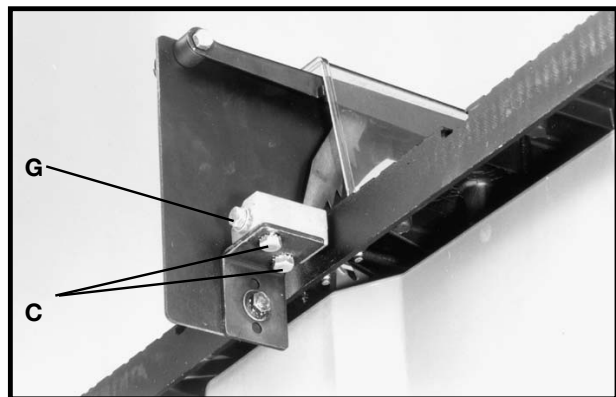

Fig. 22
10. When you are certain the splitter is properly aligned with the saw blade, tighten the two screws (C) Fig. 22, that fasten the splitter support bracket to the splitter bracket and tighten screw (G) that fastens the splitter bracket to the pivot rod.